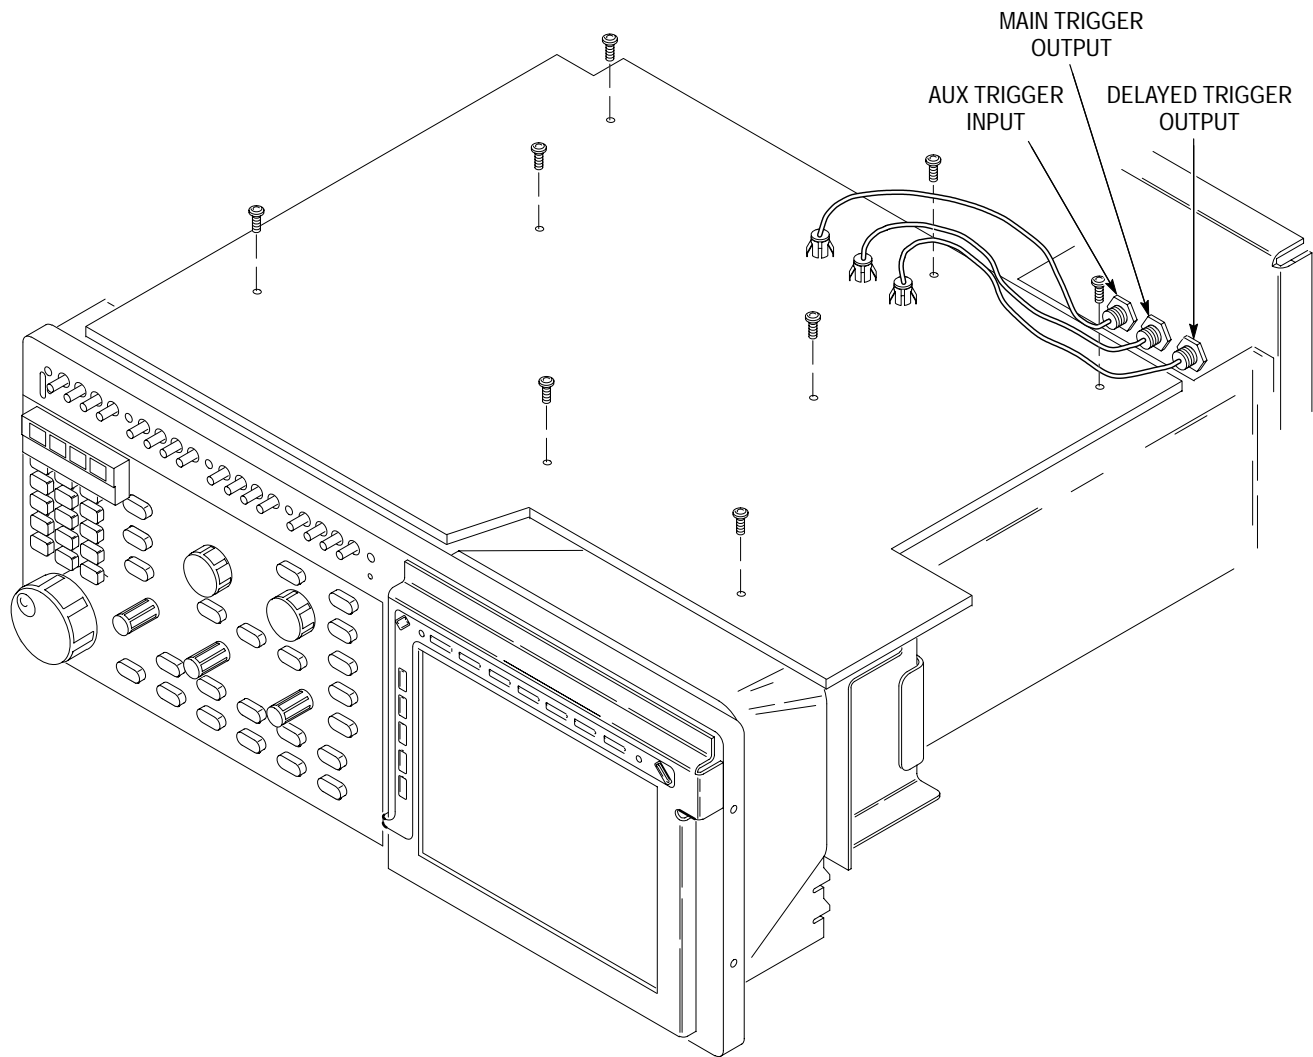

Figure 6-18: A10 Acquisition Board Removal
3. *Remove the Acquisition Board:* Use Figure 6-18 as a guide.